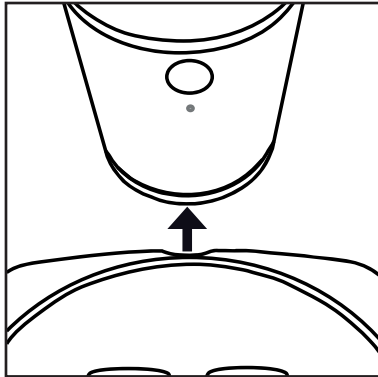

Fig. 1
- 3) Place the mask mould 13 in front of the appliance in such a way that the notch at the end extends underneath the device and bends around the bulge at the bottom of the appliance (see Fig. 1):